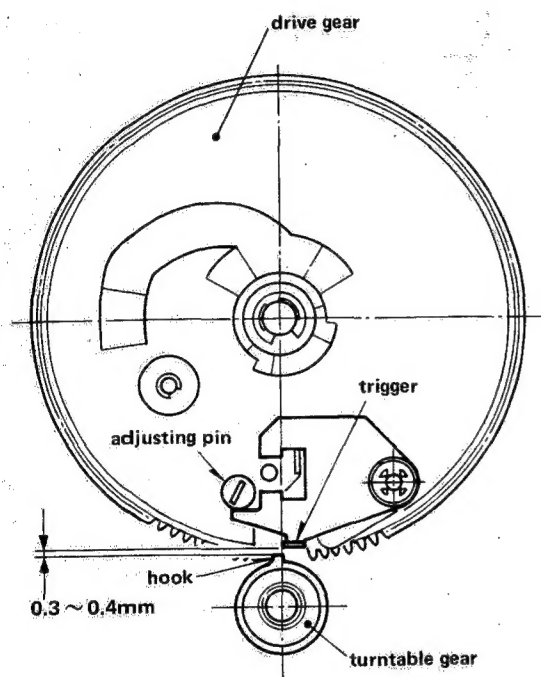

Fig. 4-5
2. If the clearance is not within specification, turn the adjusting pin until the proper clearance is obtained (refer to Fig. 4-5).